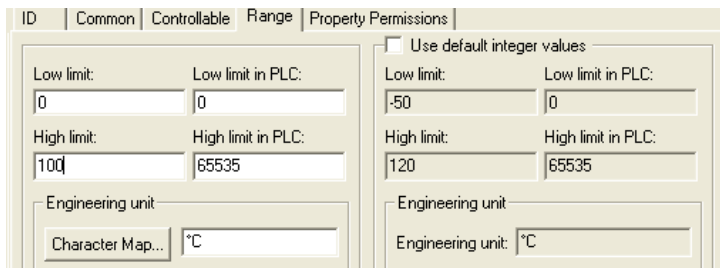

Figure 33. Individual Settings
- b. Clear the check box to use individual settings, and enter the new values. In this example, 0 and 100 are entered as new low and high limits as shown in Figure 33.